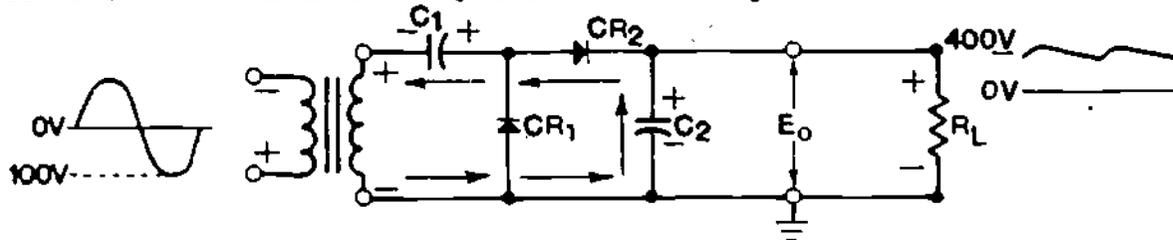

figure 9
10. With CR2 forward biased and CR1 reverse biased, a series circuit exists consisting of C1, CR2, C2, and the secondary of the transformer. Current now flows as shown by the arrows in Figure 9.